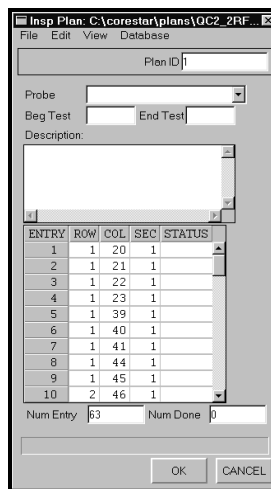

Figure 5-8. Inspection Plan Window
32. Select **Edit > Load Symbols**. This creates a tube list from the symbols on the map. See Figure 5-8.